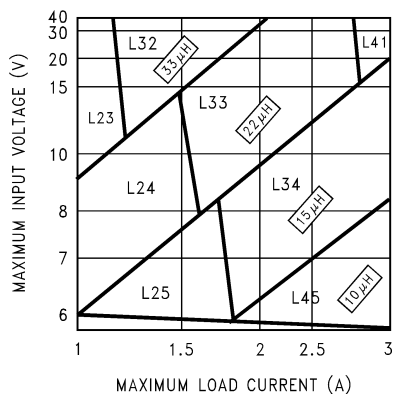
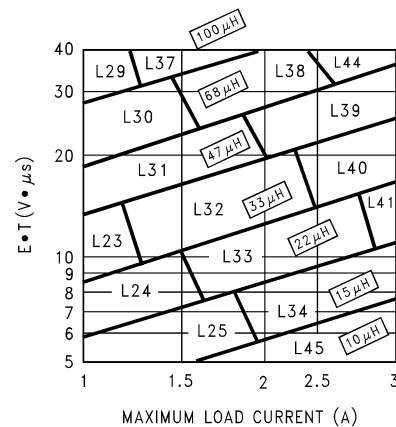

Figure 21. LM2676-3.3
Figure 24. LM2676-ADJ
Step 3: Determine the inductor required by using one of the four nomographs, Figure 21 through Figure 24. Table 1 provides a specific manufacturer and part number for the inductor.
Step 5: Determine an input capacitor from Table 8 or Table 9 for fixed output voltage applications. Use Table 3 or Table 4 to find the specific capacitor type. For adjustable output circuits select a capacitor from Table 3 or Table 4 with a sufficient working voltage (WV) rating greater than $V_{in\ max}$, and an rms current rating greater than one-half the maximum load current (2 or more capacitors in parallel may be required).
Step 3: Use the nomograph for the 3.3V device, Figure 21. The intersection of the 16V horizontal line ($V_{in\ max}$) and the 2.5A vertical line ($I_{load\ max}$) indicates that L33, a 22 μ H inductor, is required.
Step 3: To use the nomograph for the adjustable device, Figure 24, requires a calculation of the inductor Volt•microsecond constant ($E \cdot T$ expressed in $V \cdot \mu\text{S}$) from the following formula:
Using Figure 24, the intersection of 27V• μS horizontally and the 2A vertical line ($I_{load \text{ max}}$) indicates that L38, a 68 μH inductor, should be used.
When using the adjustable device in low voltage applications (less than 3V output), if the nomograph, Figure 24, selects an inductance of 22 μH or less, Table 12 and Table 13 do not provide an output capacitor solution. With these conditions the number of output capacitors required for stable operation becomes impractical. It is recommended to use either a 33 μH or 47 μH inductor and the output capacitors from Table 12 or Table 13.